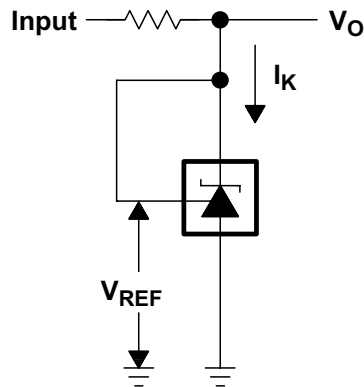

Figure 22. Test Circuit for  $V_{KA} = V_{REF}$ ,  $V_O = V_{KA} = V_{REF}$
| $I_{K(min)}$ Minimum cathode current for regulation                                        | $V_{KA} = V_{REF}$ (see Figure 22)                                                             | TLV431AC/AI                                        |          | 55    | 80    | $\mu\text{A}$ |
| $ z_{KA} $ Dynamic impedance (3)                                                | $V_{KA} = V_{REF}$ , $f \leq 1\text{ kHz}$ , $I_K = 0.1\text{ mA}$ to 15 mA(see Figure 22) |                                                    |          | 0.25  | 0.4   | $\Omega$      |
|                                        |                                                                       |                                                                                                                      | T A = full range (1)(see <a href="#">Figure 22</a> ) | TLV431BC | 1.227 | 1.253 |      |
| V REF(dev)                  | V REF deviation over full temperature range (2) | V KA = V REF , I K = 10 mA (1)(see <a href="#">Figure 22</a> )       | TLV431BC                                                                       | 4        | 12    | mV    |      |
| I K(min)                    | Minimum cathode current for regulation                                | V KA = V REF (see <a href="#">Figure 22</a> )                                                  |                                                                                | 55       | 100   | μA    |      |
| z KA                        | Dynamic impedance (4)                                      | V KA = V REF , f ≤ 1 kHz, I K = 0.1 mA to 15 mA(see <a href="#">Figure 22</a> ) |                                                                                | 0.25     | 0.4   | Ω     |      |